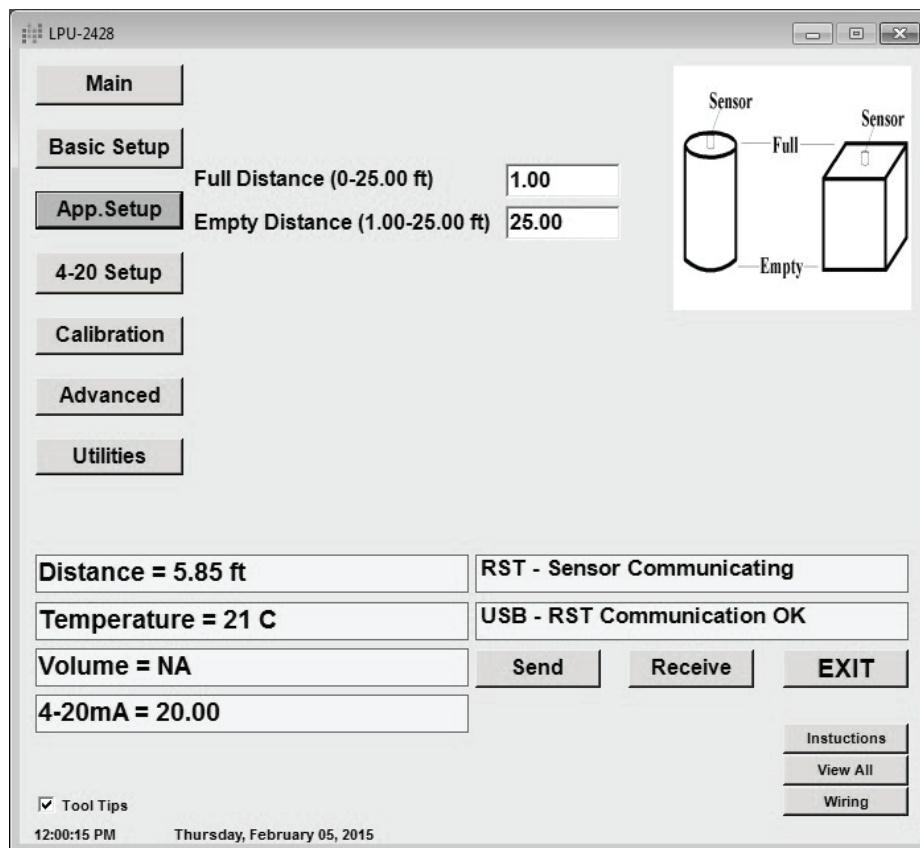

Figure 4.6
*Full Distance* (*Ful Dist* on the RST-4001) sets the distance from the sensor to the full level of the vessel being monitored. (See Figure 4.6)
*Empty Distance* (*Emp Dist* on the RST-4001) sets the distance from the sensor to the empty level of the vessel being monitored. (See Figure 4.6)